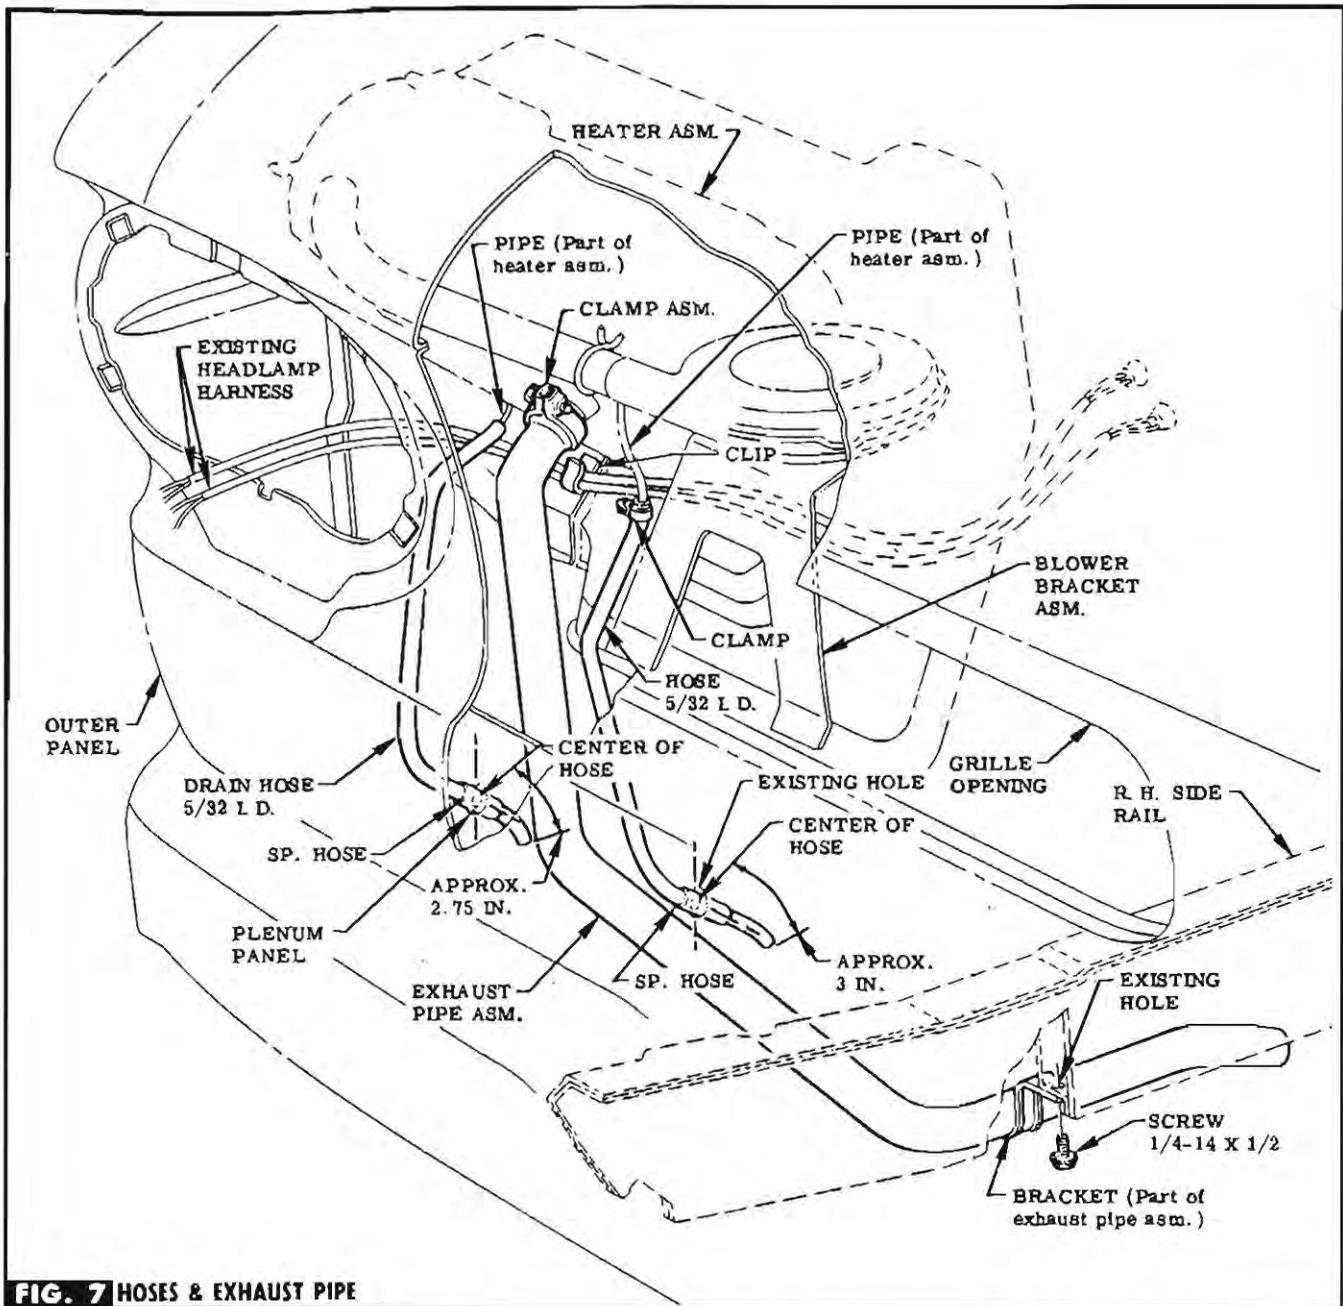

FIG. 7 HOSES & EXHAUST PIPE
STEP 36 INSERT EXHAUST PIPE THRU EXISTING OPENING IN PLENUM PANEL & LOOSELY ATTACH BRACKET TO R.H. SIDE RAIL WITH ATTACHING SCREW PROVIDED (IN BAG A). SEE FIG. 7.
STEP 37 ATTACH EXHAUST PIPE TO HEATER WITH ATTACHING CLAMP PROVIDED. SEE FIG. 7.
STEP 38 TIGHTEN BRACKET SCREW ON R.H. SIDE RAIL. SEE FIG. 7.
STEP 39 ATTACH GASOLINE FRONT PIPE HOSE TO HEATER PIPE WITH ATTACHING CLAMP PROVIDED (IN BAG C). SEE FIG. 7.
STEP 40 ROUTE GASOLINE FRONT PIPE HOSE THRU EXISTING HOLE IN PLENUM PANEL. USING LIQUID SOAP, SLIDE SP. HOSE INTO PLACE OVER FRONT PIPE HOSE. SEE FIG. 7.
STEP 41 ATTACH DRAIN HOSE TO HEATER PIPE & ROUTE THRU EXISTING HOLE IN PLENUM PANEL. USING LIQUID SOAP, SLIDE SP. HOSE INTO PLACE OVER DRAIN HOSE. SEE FIG. 7.
STEP 42 INSTALL PREVIOUSLY REMOVED HEADLAMP. ROUTE WIRES & ATTACH TO CLIP ON COVER ASSEMBLY. SEE FIG. 7.